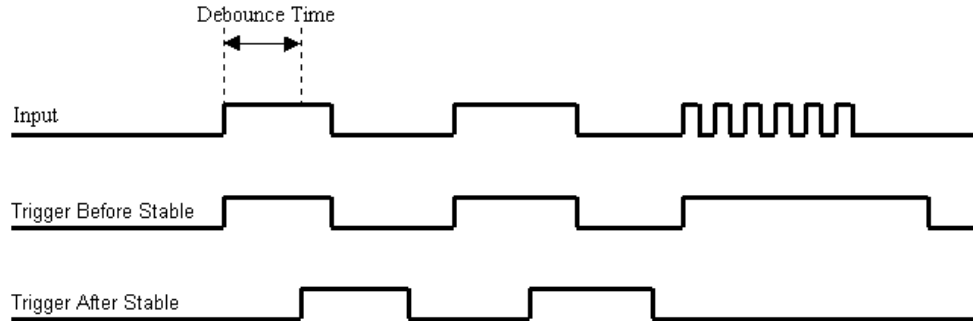

Figure 18. Optimal debounce time for trigger after stable mode
*Trigger after stable* mode behaves more like a traditional debounce function: rejecting glitches and only passing state transitions after a required period of stability. *Trigger after stable* mode is used with electro-mechanical devices like encoders and mechanical switches to reject switch bounce and disturbances due to a vibrating encoder that is not otherwise moving. The debounce time should be set short enough to accept the desired input pulse but longer than the period of the undesired disturbance as shown in Figure 18.